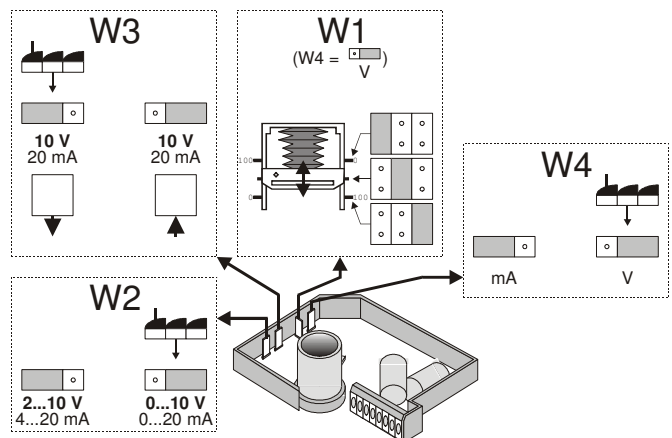

Fig. 1. Jumper plugs W1, W2, W3, W4
The Vdc- or mA-input signal is selected by shifting jumper plug W4 (see Fig. 1). The factory setting of W4 is "Vdc". No external resistor for mA-input signal is necessary.
The range of the analog input signal Y (0...10 Vdc / 0...20 mA or 2...10 Vdc / 4...20 mA) can be selected by changing the position of jumper plug W2 (Fig. 1). The factory set is at 0...10 Vdc.
The direction of action (direct or reverse) can be selected by changing the position of jumper plug W3 (Fig. 1). The factory set is: stem extends at increasing signal (direct acting).
**NOTE:** Jumper plugs W1, W2, W3, and W4 are accessible after the cover has been removed. They are located on top side of the printed circuit board (see Fig. 1).